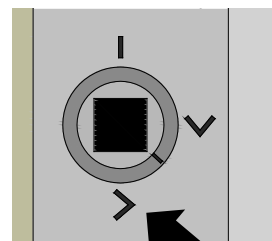

figure 22
5) While supporting the weight of the faceplate, use the chuck key to turn one of the cams until the cam line is between the two “V” marks on the spindle. as in (fig. 22).